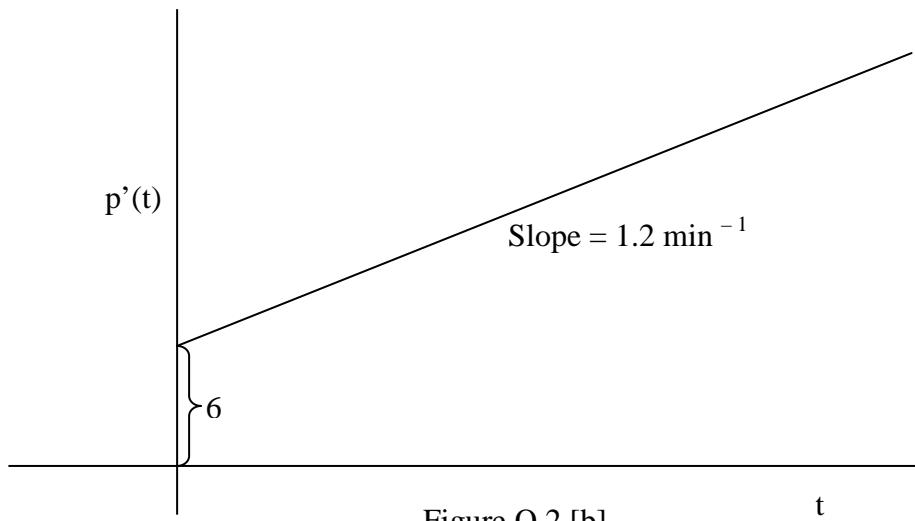

Figure Q.2.[b].
- [b] If the input Y_m to PI controller changes stepwise ($Y_m (s) = 2/s$) and the controller output changes initially as in Figure Q.2.[b], what are the values of the controller gain and integral time?